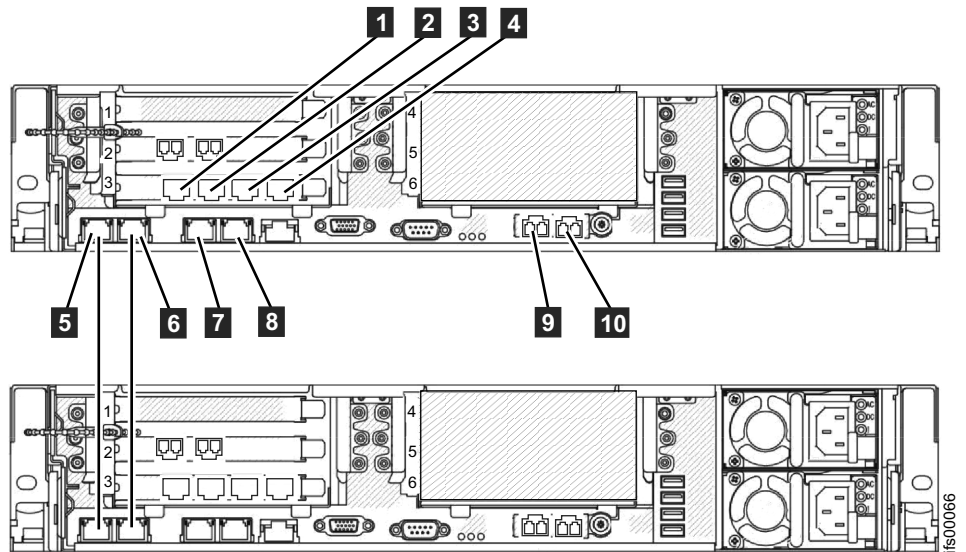

Figure 39. File module Ethernet connections.
This task assumes that your initial planning has determined where the Ethernet cables are to be located. The Storwize V7000 Unified control enclosure requires at least one and a maximum of two 1 Gbps Ethernet connections to each node canister. Refer to Figure 37, Figure 38 on page 50, and Table 16 on page 50. For the file modules, the first two 1 Gbps Ethernet ports labelled **1** and **2** in Figure 39 on page 51 are used for internal communications between the file modules. Refer to Figure 39 on page 51.
If you encounter that situation, change the service IP addresses on the new nodes before connecting the Ethernet cables. For details, see Figure 39 on page 51 or see the *Storwize V7000 Unified Problem Determination Guide* PDF on the DVD for further information about setting service IP addresses using a USB flash drive.
- Connect an Ethernet cable from Ethernet port 1 on the first file module to the first Ethernet port 1 the second file module. Refer to Figure 39 on page 51 for port locations.
You have two 10 Gbps Fibre Ethernet ports available for host connections from each file module. Connect your network cables to the Ethernet ports in these slots as applicable. Refer to Figure 39 on page 51.